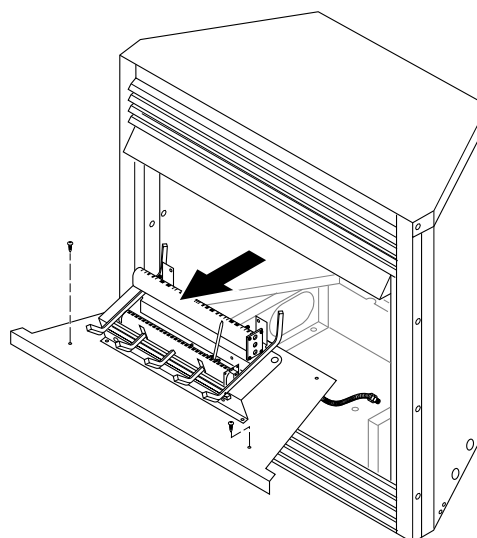

Figure 19 - Removing Log Base Assembly From Fireplace
2. Remove screws that attach log base assembly to fireplace (see Figure 19). Carefully lift up log base assembly and remove from fireplace (see Figure 19).